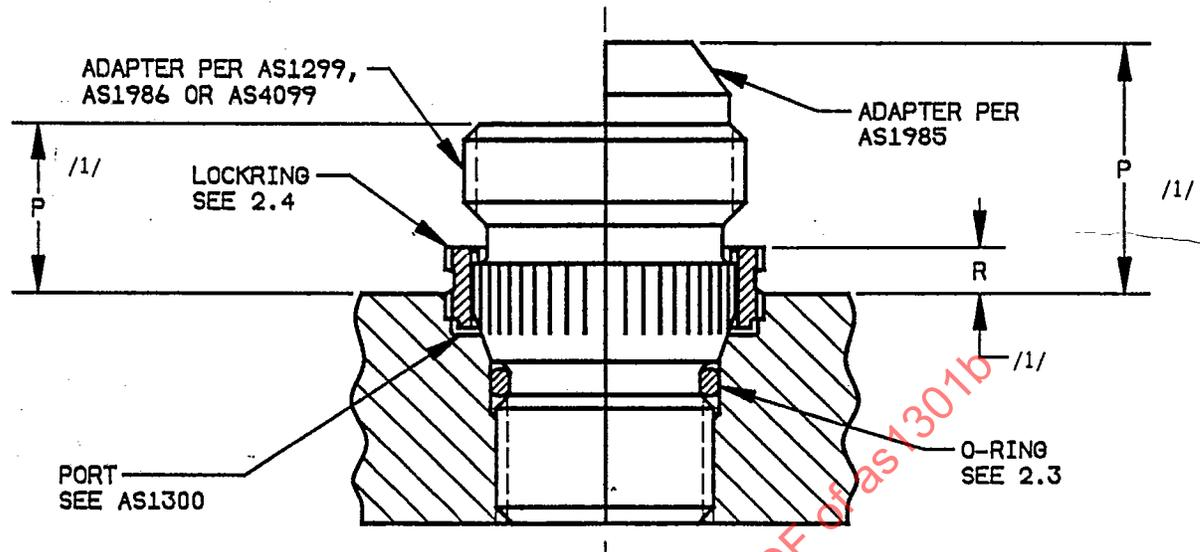

FIGURE 1 -Installed Adapter
2.2 Adapters per AS1299, AS1985, AS1986, and AS4099 installed per this document into ports per AS1300 shall have a stand-off per dimension "P" in Figure 1 and Table 2.